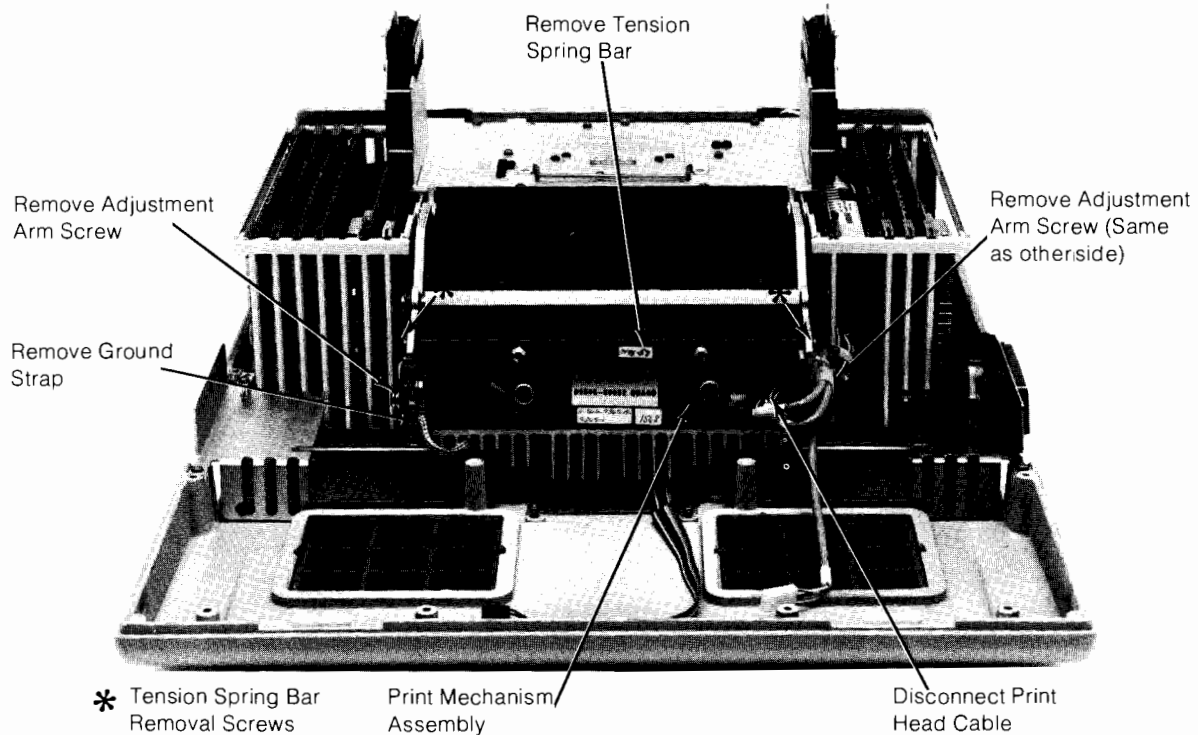

Figure 3-14: Print Mechanism Assembly Removal
- Remove the tension springs and tension spring bar (see Figure 3-14).